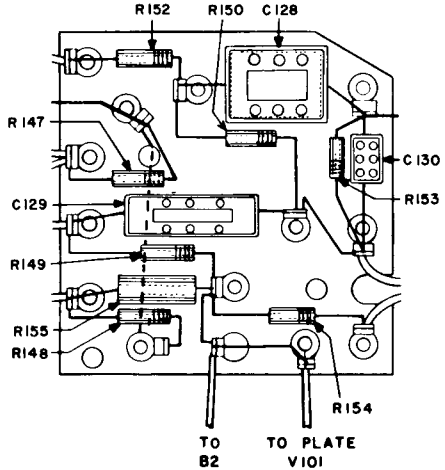

Figure 6-6. Capacitor-Resistor Assembly, E109
g. CAPACITOR-RESISTOR ASSEMBLY E109. - This appears at the upper right of the chassis in Figure 5-2. A detail is shown in Figure 6-6. To remove it:-